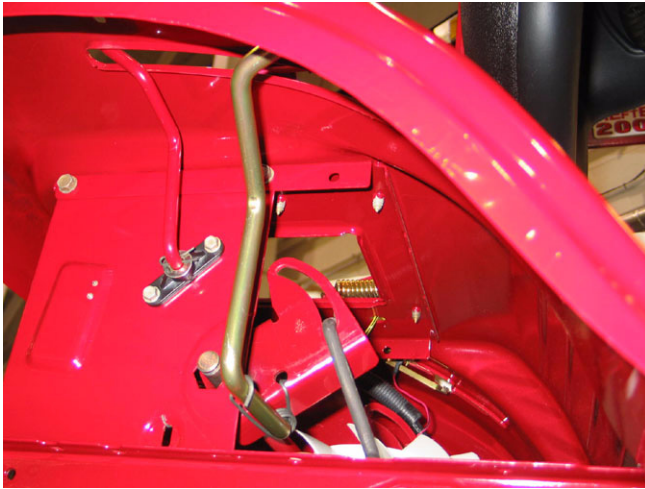

Figure 5.16
5.16. Installation notes: See Figure 5.16.